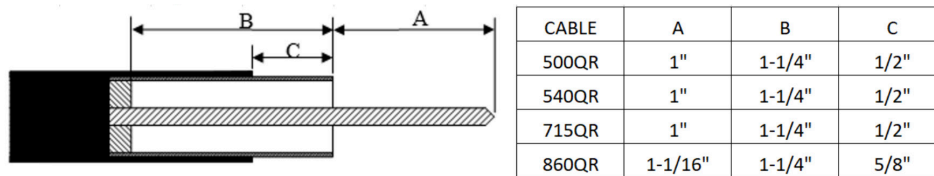

Fig. 2
2. Core cable and strip back Aluminum sheath and Jacket to expose the center conductor using a commercially available core/strip tool as shown in Figure 2.
5. Strip back the jacket to expose the Aluminum Sheath by using Jacket Strip tool supplied with the tool kit as shown in Figure 2.